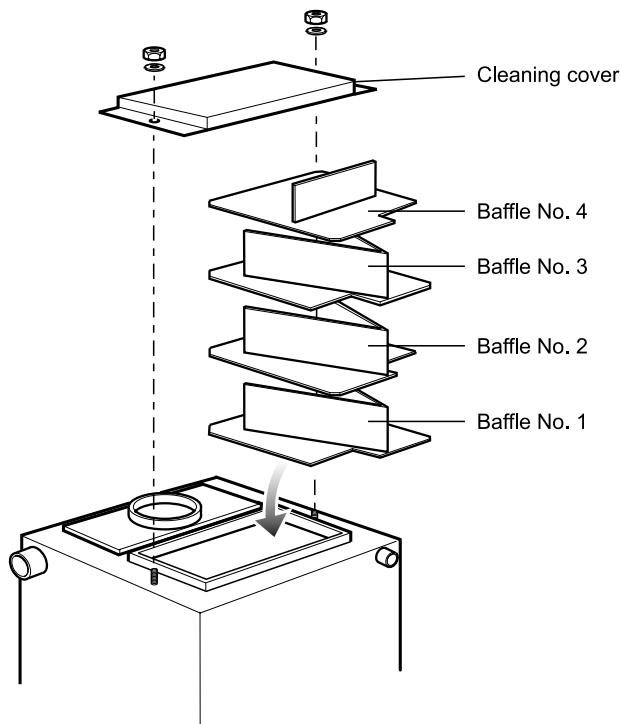

Fig. 23 - 50/70 baffle positions
See Fig. 23, 24 or 25
- 2 Remove the baffles, noting their position (see Fig. 23, 24 or 25).
- 6 Replace the baffles, ensuring they are correctly fitted. See Fig. 23, 24 or 25.
50/70 - Baffle plate one is at the bottom, then two, then three and four at the top (see Fig. 23).